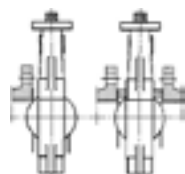

FIG 3
- Butterflyventilen kan ikke monteres i et rør, hvis indre diameter er mindre end den nominelle diameter af ventilen. I så fald skal du bruge afstandsstykker for at forhindre skader på klappen (se fig 3).
- The butterfly valves may not be fitted into a pipe whose inner diameter is smaller than the nominal diameter of the valve. In such case you should use spacers to prevent damage to the disc (see fig 3).